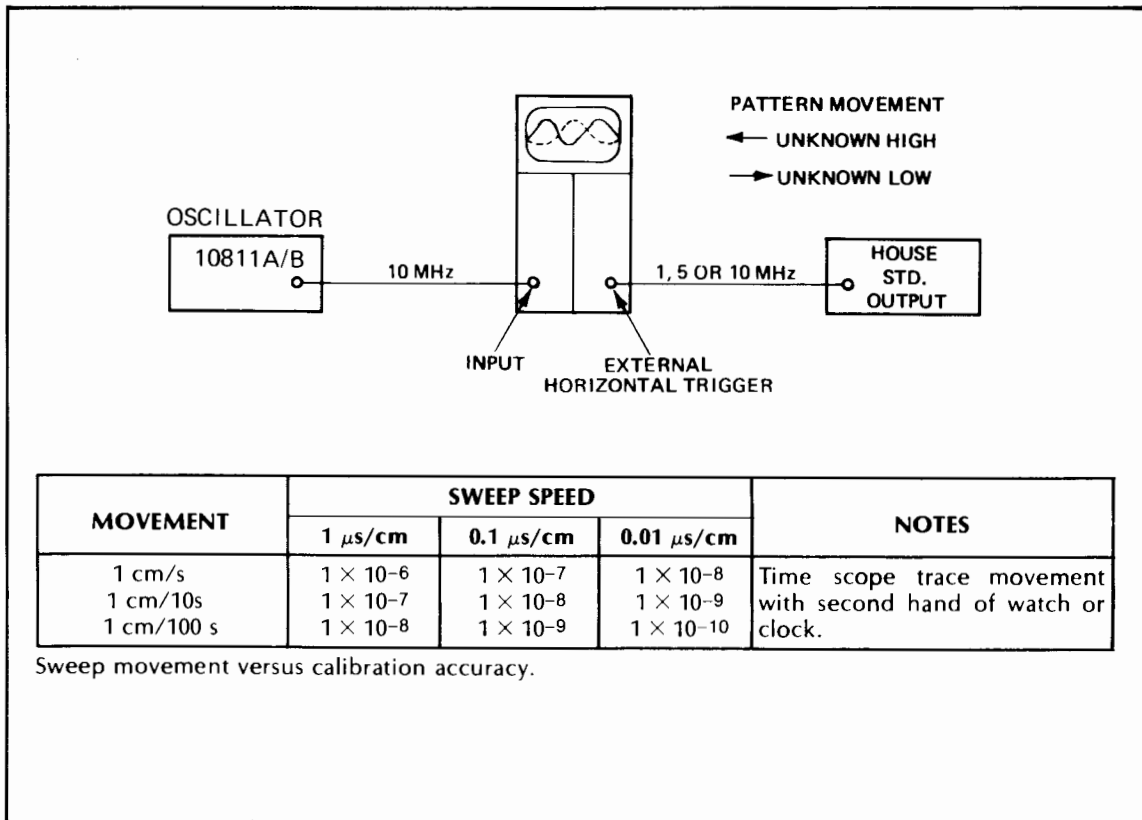

Figure 3-1. Oscillator Adjustment Set-Up
- e. By timing the sideways movement (divisions per second on the oscilloscope), the approximate offset can be determined based on the oscilloscope sweep speed shown in *Figure 3-1*.